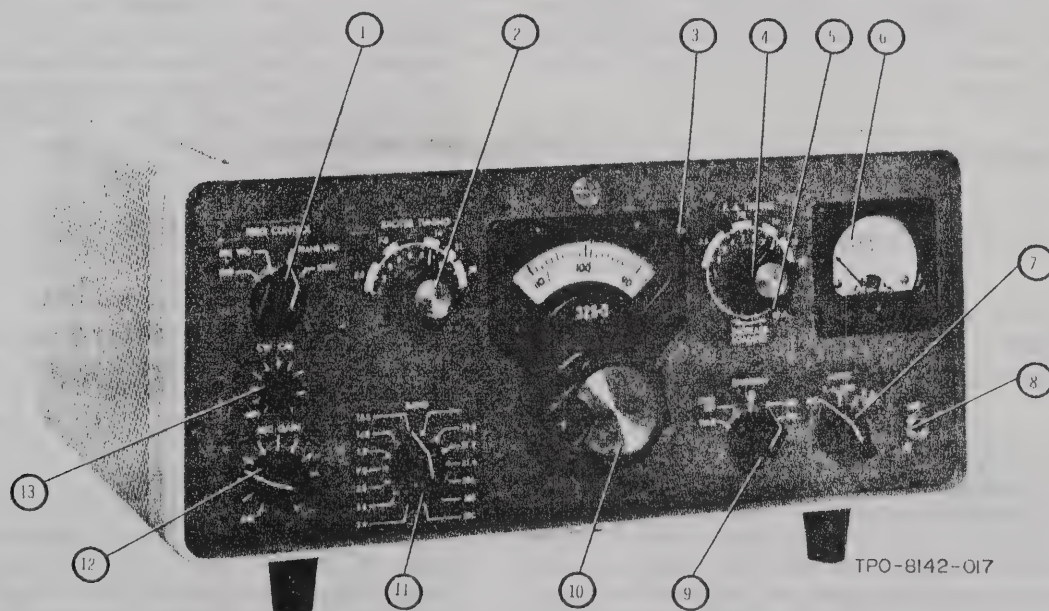

Figure 2-1. Panel Controls
- a. Refer to figure 2-1. Set **FREQ CONTROL** switch (1) to **TRANS VFO**. See table 2-1.
- b. Set **BAND** switch (11), **EXCITER TUNING** (2), and **P.A. Tuning** (4) to desired band.
- c. Set tuning dial (10) to desired frequency within band. For example, if **BAND** switch is set to 14.0 and the desired frequency is 14.195 mc, set the dial to 195. To read the frequency, add the dial setting to the **BAND** switch setting. As an example, if the **BAND** switch is set to 3.8 and the dial is set to 5, the frequency is 3.805 mc. If the **BAND** switch is set to 3.8 and the dial is set to 170, the frequency is 3.970 mc.
- d. Place **METER** switch (7) to **P.A. GRID** position and **EMISSION** switch (9) to **TUNE**.
- e. Turn the **MIC GAIN** control (12) clockwise until the meter needle just moves, then adjust **EXCITER TUNING** for maximum grid current indication. Adjust both **MIC GAIN** and **EXCITER TUNING** controls to